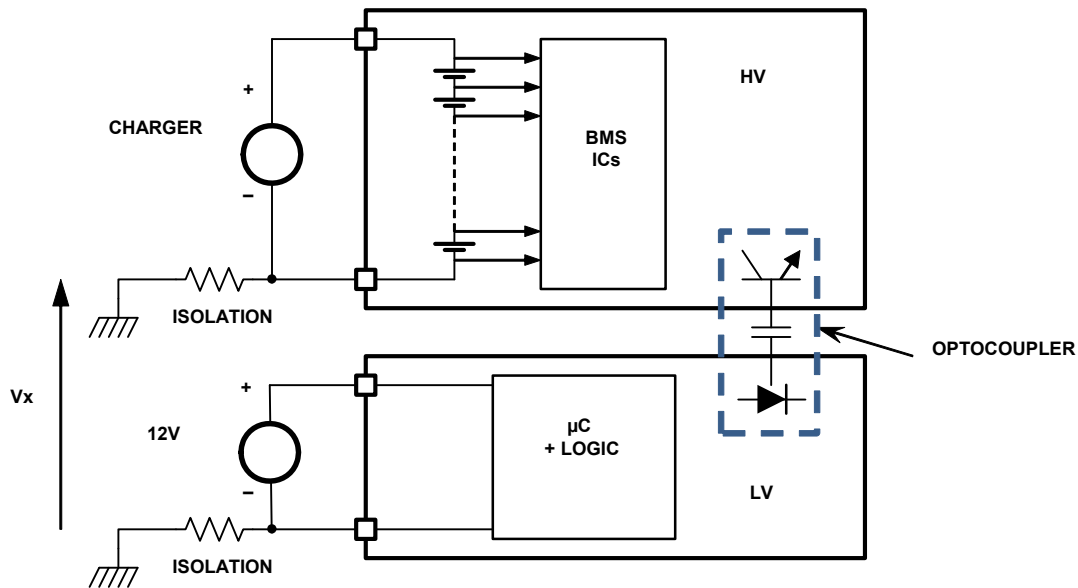

FIGURE 1. BATTERY MANAGEMENT SYSTEM DIAGRAM
Figure 1 shows a diagram of an automotive BMS. The system is split into two voltage domains: High Voltage (HV) and Low Voltage (LV). These domains are isolated from each other. The LV side is typically connected to system ground (chassis), while the HV side, which contains the batteries, is typically floating. Large transients can occur between the LV and HV grounds when the HV side is connected to another system, such as a battery charger, or when the battery charger changes current level abruptly. These transients, represented by voltage V_x in Figure 1, then appear directly across any optocoupler or other isolation devices used to carry signals between the LV and HV domains.